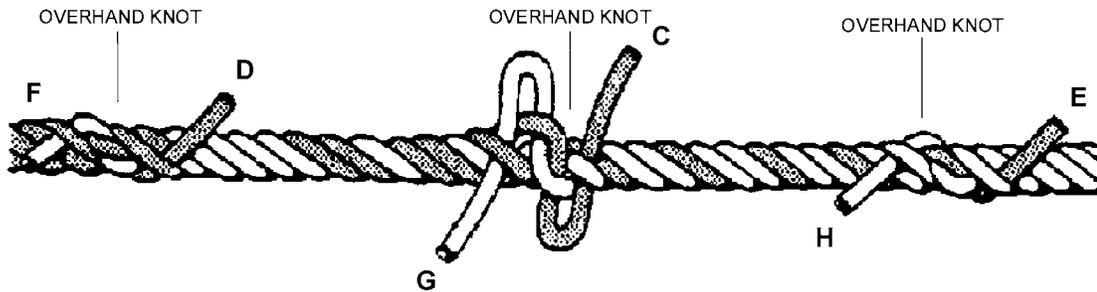

Figure 6 Steps 9–14
10. Tie the remaining two-thirds of strands D and F in an overhand knot (if the lay of the line is in the same direction as Figure 6 then tie it left over right).
10. Tie the remaining two-thirds of strands D and F in an overhand knot (if the lay of the line is in the same direction as EO C221.03, Figure 6 then tie it left over right).